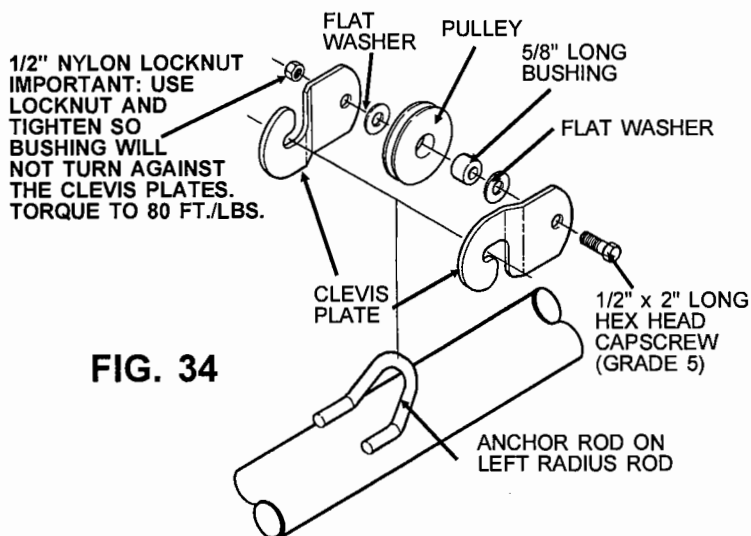

FIG. 34
Step 32. Hook clevis plates over anchor rod on left radius rod. Then assemble bushing, flat washers and cable pulley between the clevis plates using 1/2" x 2" long hex head capscrew (grade 5) and nylon locknut. After the locknut is tightened, check to see that the clevis plates are captured on the anchor rod and cannot come off. See Fig. 34.